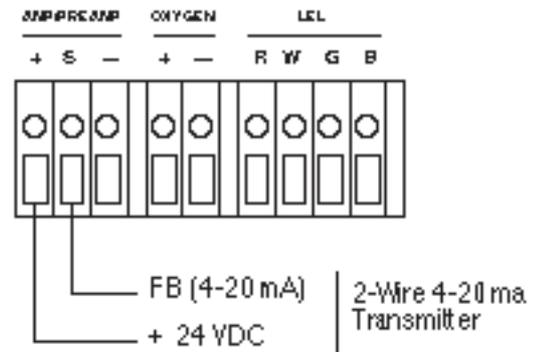

Figure 10. Generic 4 to 20 mA Transmitter Output Wiring
6. Connect the wires from the transmitter to the appropriate detector/ transmitter terminals. The top detector terminal strip is for channel 1 and the bottom one is for channel 2. See the transmitter instruction manual for controller terminal connections. Figure 10 below illustrates typical transmitter wiring connections.